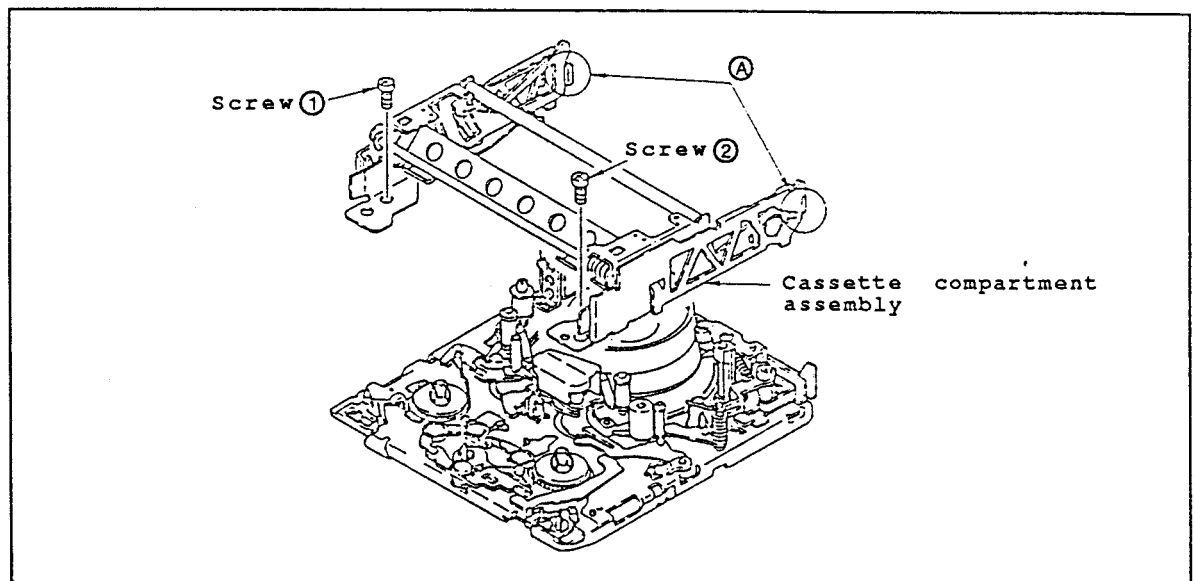

Fig.II-1
#### 1-2 Removal of cassette Compartment Assembly (Fig.II-1)
- (1) Remove setscrews ① and ②.
- (2) To detach cassette compartment assembly, slide the assembly a little toward you. (A parts in Fig.II-1 detached)